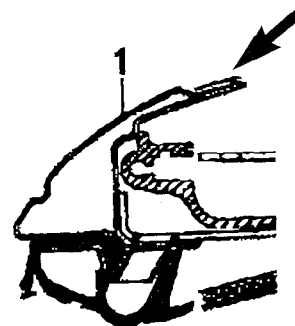

Figure 20
- Apply glue to the mounting flange for the roof rail strip (arrow in Figure 20).